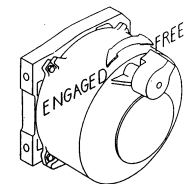

Figure 14
Rotate the clutch lever to the "Free" position as shown in Figure 14. If there is a load on the wire rope, the clutch lever may not turn easily. **DO NOT FORCE THE CLUTCH LEVER.** Release tension on the wire rope by jogging out some of the wire rope, then try releasing the clutch. Pull out the wire rope and secure to anchor or load. Check that there are at least five (5) turns of wire rope left on the drum. Re-engage the drum by rotating the clutch lever to the "Engaged" position (see Figure 14).